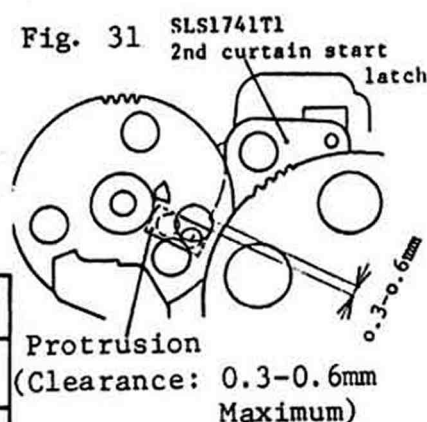

Fig. 31
- b. Check clearance between the SLS1741T1 2nd curtain start latch and the protrusion of SLS1731T1 S.gear No.1 by looking through hole of SLS1735T1 S.gear No.2 as shown in Fig. 31.